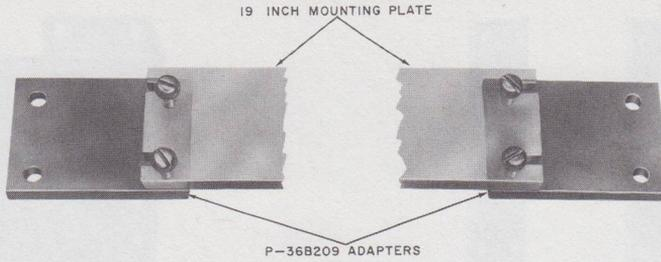

Fig. 38—P-36B209 Adapter
6.02 The P-36B209 adapter (Fig. 38) has two adapters required for mounting one 1-3/4